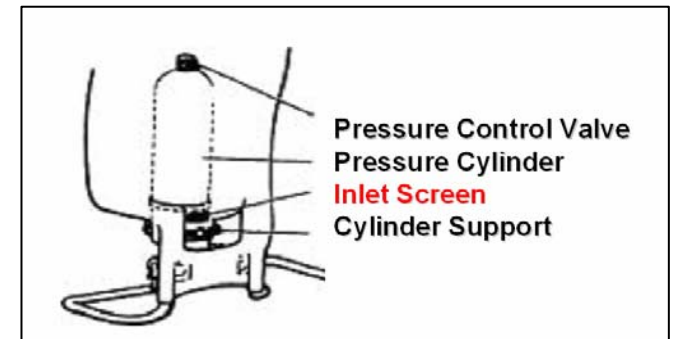

Fig. 45. Solo 475 Backpack Sprayer - Inlet Screen.
- ☐ 15. Refill To protect the piston, cylinder and Viton® collar, a fine mesh, stainless steel screen is located on the pressure cylinder inlet. If you find that your sprayer will not empty the formula tank, check for a clogged inlet screen (Fig. 45). The inlet screen is located at the bottom of the pressure cylinder on the